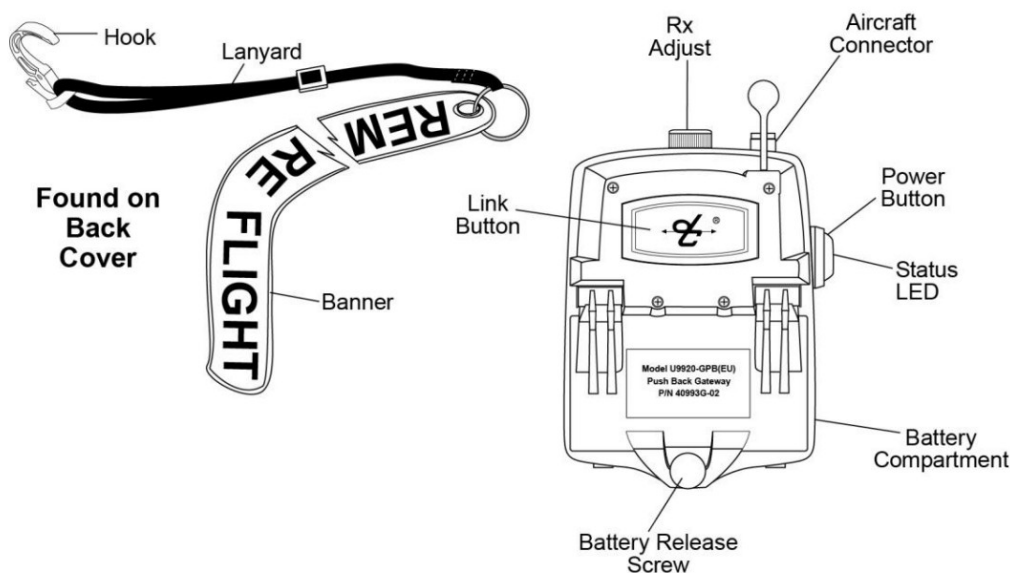
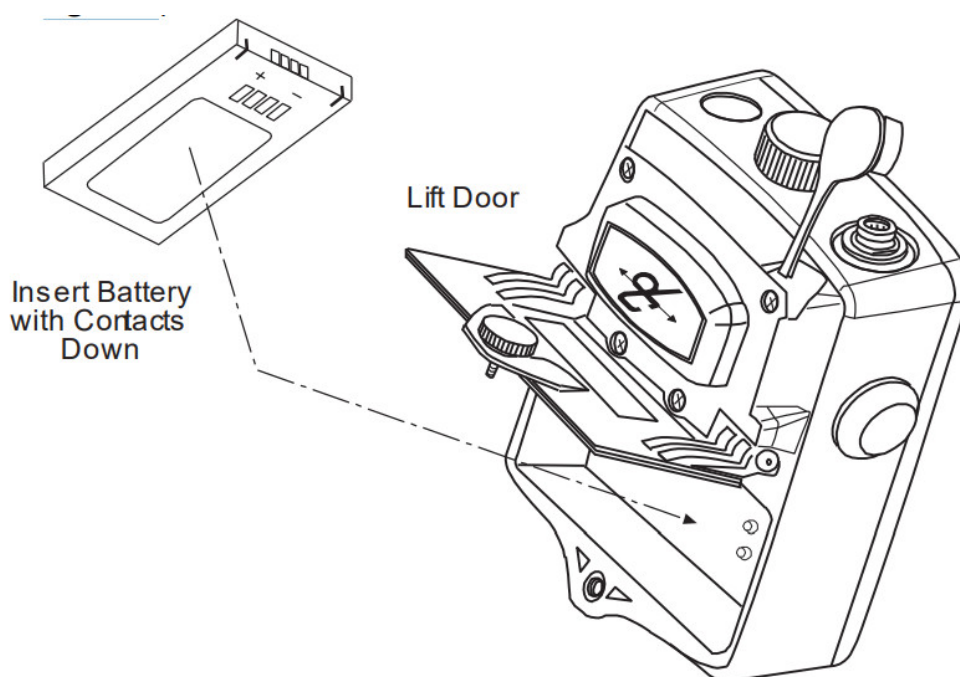

Figure 1: Overview of Gateway
Figure 3: Battery Insertion/Removal
The included lanyard and hook assembly, with Remove Before Flight banner (see Figure 1), facilitates the temporary mounting of the U9920-GPB to an aircraft. Care and judgment should be exercised when attaching to any part of the aircraft so that damage does not occur to the aircraft or the gateway.
Audio levels can vary between aircraft. To compensate for this, the U9920-GPB(EU) has a receive level adjust knob (see Figure 1). Turning this knob will increase or decrease the audio level coming from the aircraft and into the wireless intercom. By adjusting this knob, optimum performance can be achieved.
All David Clark 9900-series wireless belt stations and battery-operated controllers/gateways use a 3.7V Li-Polymer rechargeable battery. This battery is removed by loosening the battery release screw (See Figure 1). The batteries are charged with the A99-04CRG 4-bay battery charger (41034G-01). When installing a battery, take care to align the battery properly and fully tighten the screw (see Figure 3).